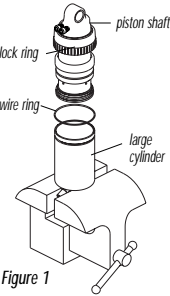

Figure 1
1. Deflate the shock and clamp the valve end of the shock in a soft-jawed vice, being careful not to damage the shock's eyelet (Figure 1).